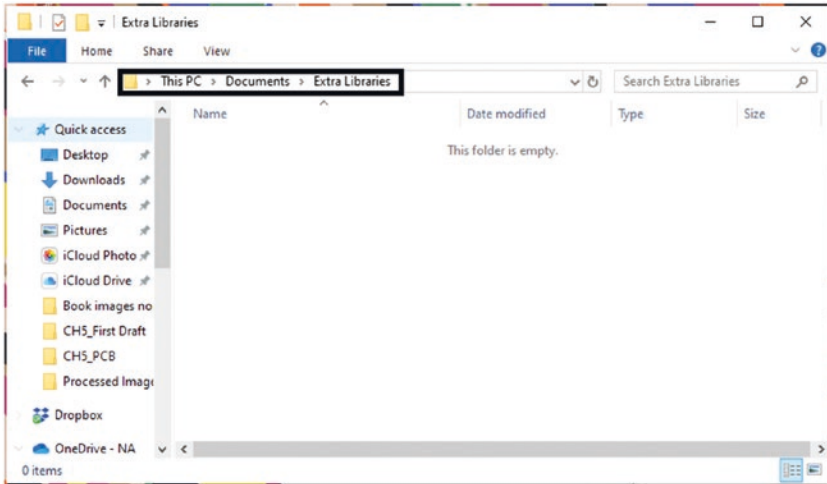

Figure 5-5. Create the Extra Libraries folder
3. Create a new folder called “Extra Libraries.” See Figure 5-5.